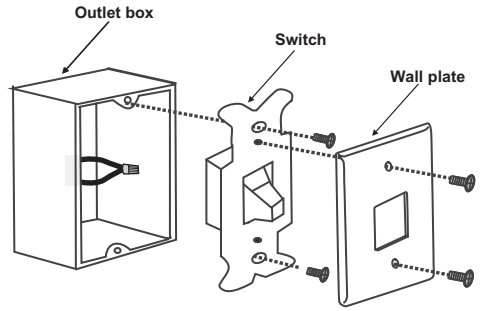

Figure 17
Step 1. Remove the existing wall plate and the old switch from the wall outlet box. Wire nut the BLACK leads (hot) together and push back inside the outlet box. (Fig. 17)